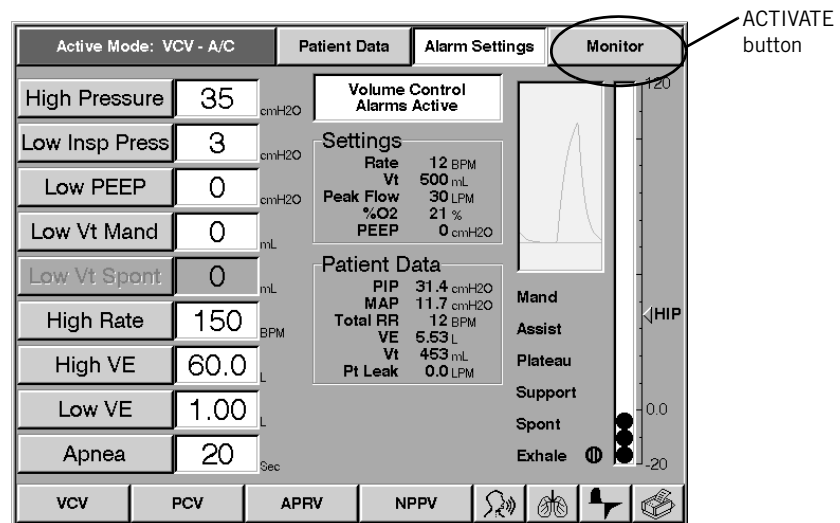
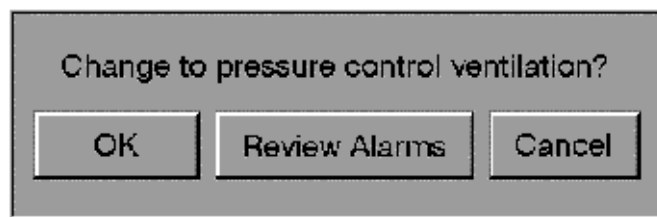

Figure 8-16: PCV Setting While NPPV is the Active Breath Type
Figure 8-17: Change Breath Type Insert Window for PCV
2. From the control settings screen, push the ACTIVATE button. Refer to Figure 8-16. The ventilator displays a prompt insert (Figure 8-17).